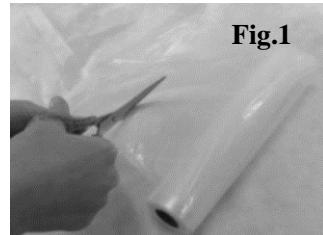

Fig.1
2. Use scissors to cut a bag from the bag roll to desired length – **Fig. 1.**